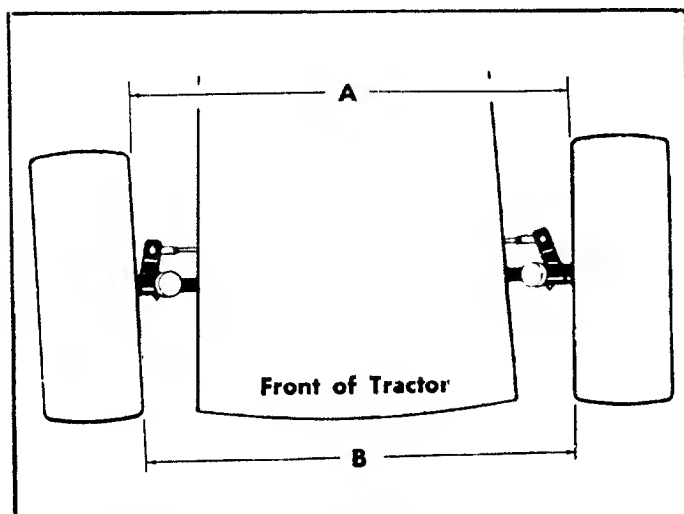

FIGURE 22. TOE-IN DIAGRAM
A.) To increase dimension "B", screw the rod into tie rod end. See figure 22.
B.) To decrease dimension "B", unscrew tie rod from tie rod end. See figure 22.